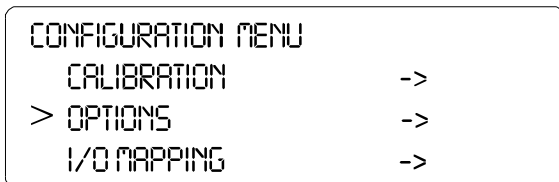

FIG. 151: CONFIGURATION MENU/SELECTING OPTIONS
Step 2. Push the up or down arrows until the cursor is next to “OPTIONS”. (See Fig. 151)